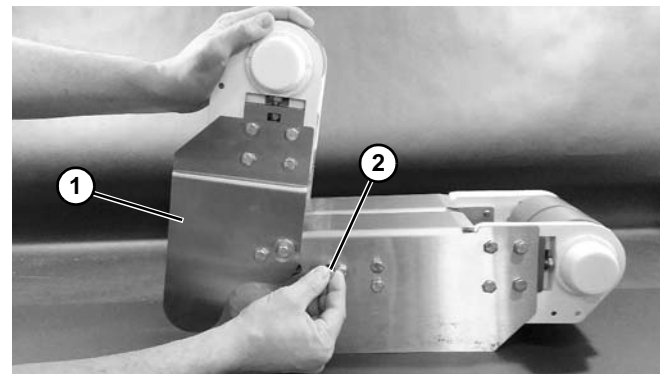

**Figure 62**
20. Remove the belt from under the stand (**Figure 62, item 1**) and from the conveyor (**Figure 62, item 2**) on both ends.